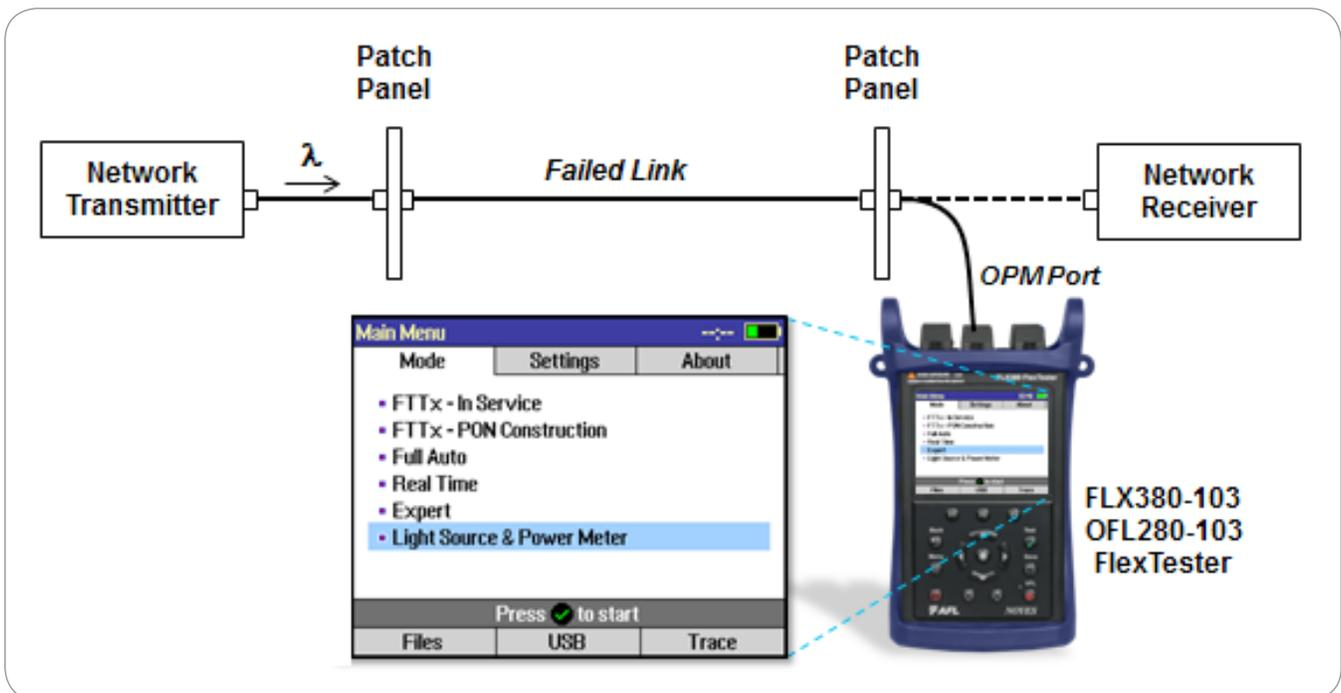

Figure 2: Connect Fiber-under-test to OPM Port and select "Light Source and Power Meter".
1. If you do not know if the fiber-under-test is carrying an active signal, clean and connect the fiber to the FlexTester's Optical Power Meter (OPM) port, as shown in Figure 2.